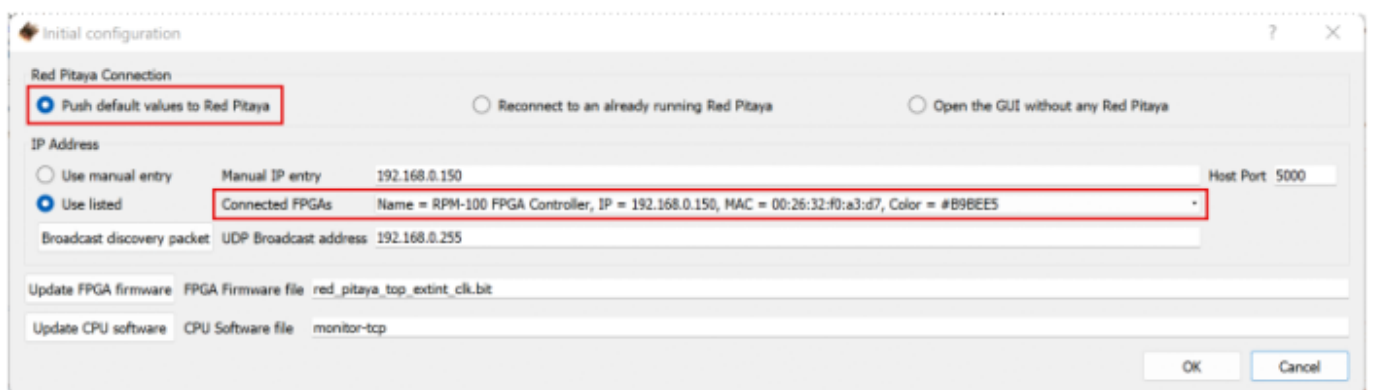

Fig. 5: Start-up Menu
- A start-up menu should appear (figure 5). Check that the software can recognize the ethernet connection to the module. If the module is recognized, the device name and IP address will appear next to “Connected FPGAs”. If the device is not initially found, click “Broadcast discovery packet” to search for the device. Ensure “Push default values to Red Pitaya” is selected and press OK.